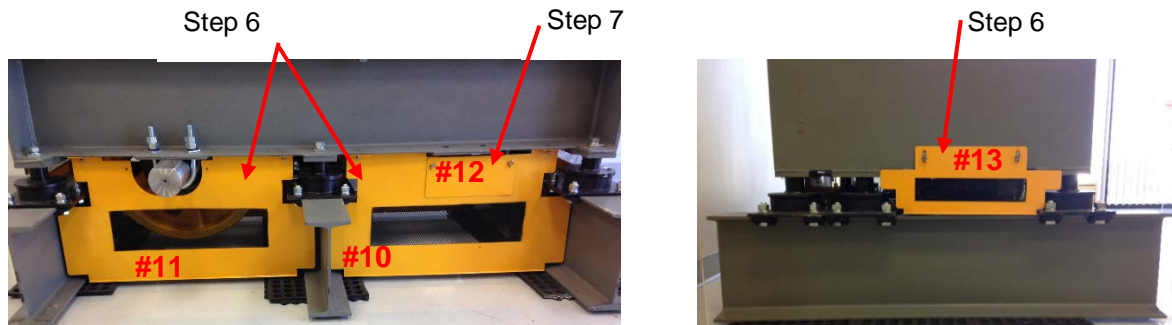

Figure 4 Install Deflector Guards
**Step 6:** Install Deflector Sheave Guard Right [#10], Deflector Sheave Guard Left [#11], (2) Bedplate Back Guards [#14] (not shown) and (2) Bedplate Side Guards [#13] to the bedplate using (2) each wing bolts, lock washers, and flat washers. See Figure 4.
**Step 7:** Install Deflector Hole Cover [#12] to the appropriate Deflector Sheave Guard using (2) wing bolts, lock washers, and flat washers.